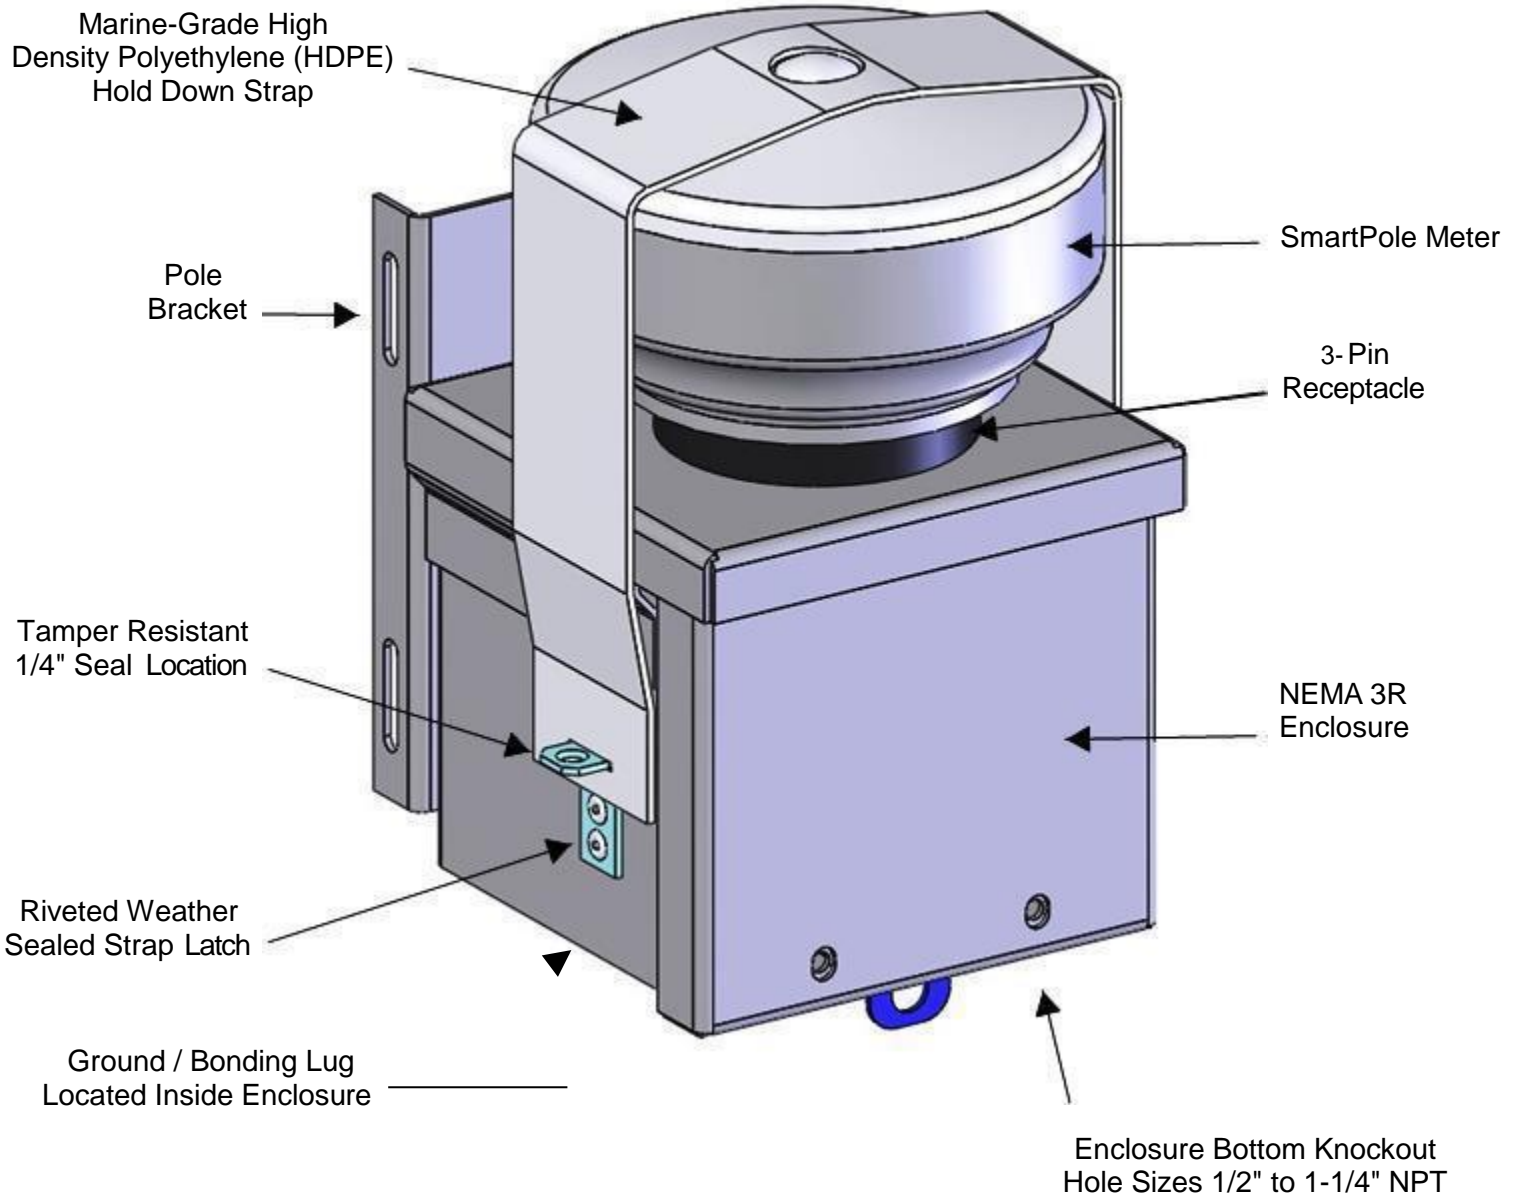
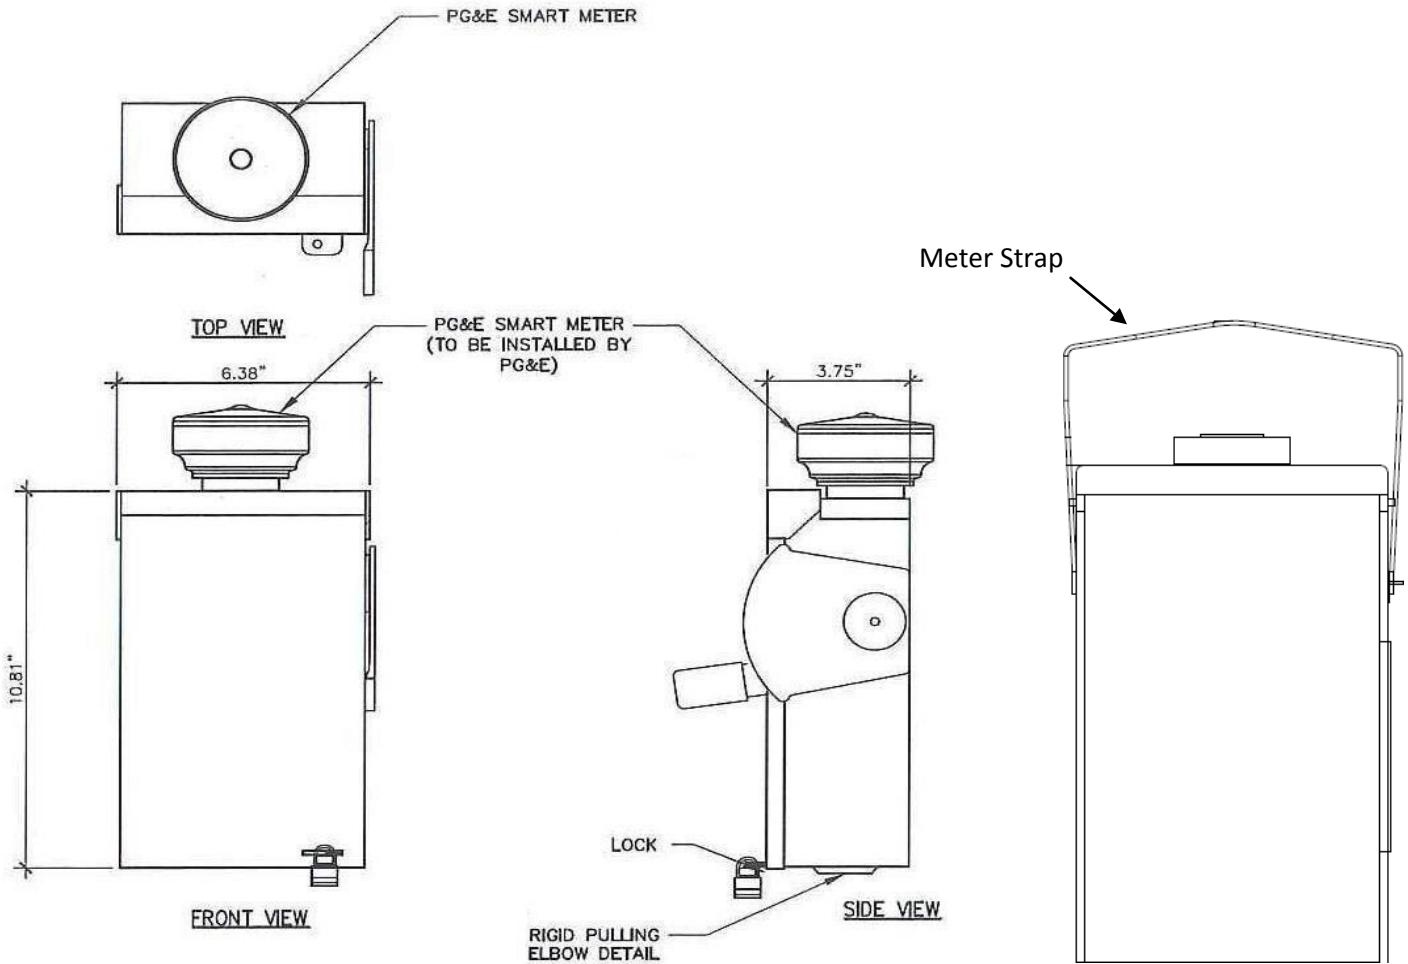

Figure 2 - SmartPole Meter, Enclosure, and Pole Bracket
Figure 3 – Meter and Disconnect Switch Combination Enclosure
4. Installation of a NEMA 3R enclosure unit with pole bracket is required. The enclosure with receptacle, pole bracket, and meter strap come together as one unit manufactured by Tesco Advent. See Table 1 and Figures 2, 3, 4, and 7 for enclosure unit options. There is also a combination enclosure that includes a disconnect switch and receptacle for the SmartPole meter as well as a transformer rated enclosure unit.
5. Install the SmartPole Meter enclosure unit (Figure 2 or Figures 3 & 4) on the pole at a minimum of 7 feet to a maximum of 8 feet above grade, as measured from the bottom of the enclosure, and not exposed to vehicular traffic.